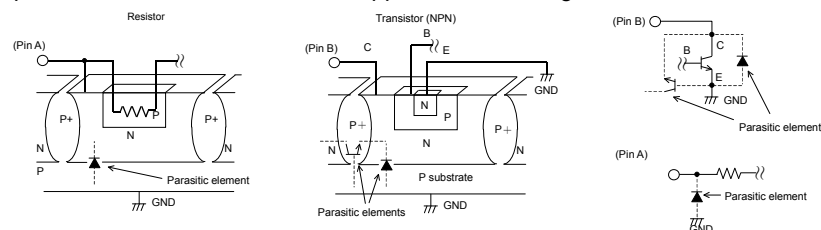

Fig.18 Example of a Simple Monolithic IC Architecture
- 8) This monolithic IC contains P+ isolation and P substrate layers between adjacent elements in order to keep them isolated. P/N junctions are formed at the intersection of these P layers with the N layers of other elements to create a variety of parasitic elements. For example, when the resistors and transistors are connected to the pins as shown in Fig. 18, a parasitic diode or a transistor operates by inverting the pin voltage and GND voltage.